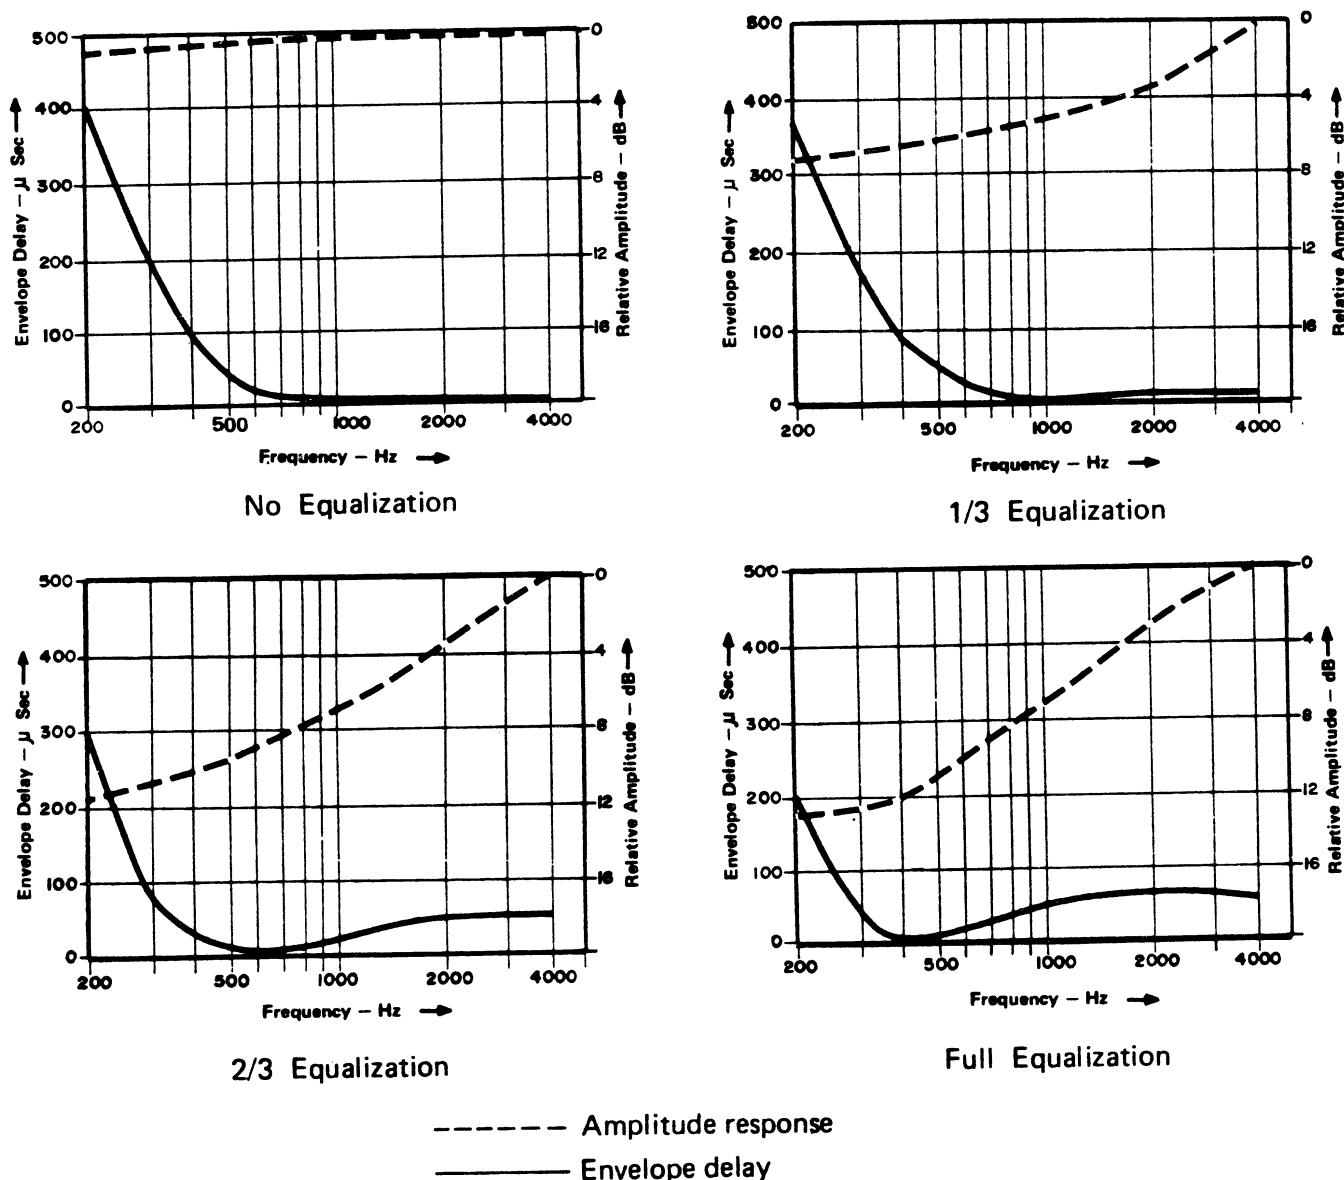

Figure 2. Typical Gain and Delay Characteristics of the 401 Dual Line Amplifier
1.06 Variable equalizers are provided on the input of both the transmit and receive amplifiers to compensate for the amplitude slope characteristic of a facility (characteristic curves are shown in Figure 2). The 401, equipped with an optional subassembly (4031 or 4032) can provide additional amplitude equalization on the receive side.